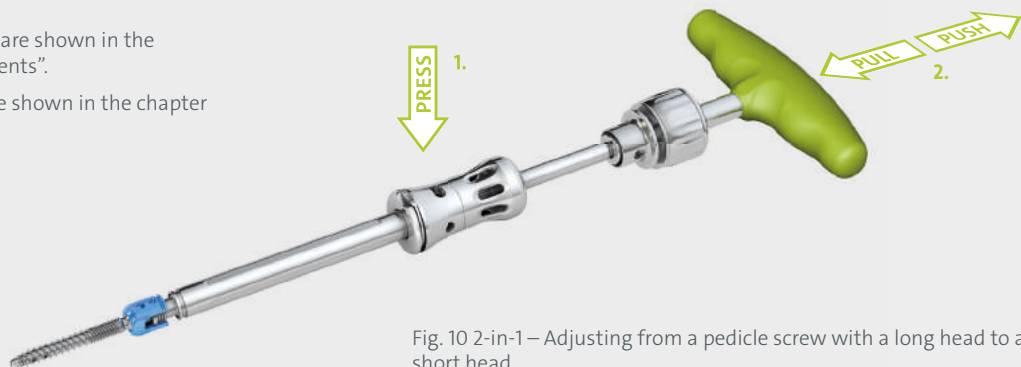

Fig. 10 2-in-1 – Adjusting from a pedicle screw with a long head to a short head
The adjustment is made by pressing the button on the middle part of the handle of the instrument. For pedicle screws with a short head, it is moved downward (2). For pedicle screws with a long head, the middle part of the handle has to be released by pressing the button (1). After this, the Torx can be inserted deeply into the long head screws (Fig. 10).